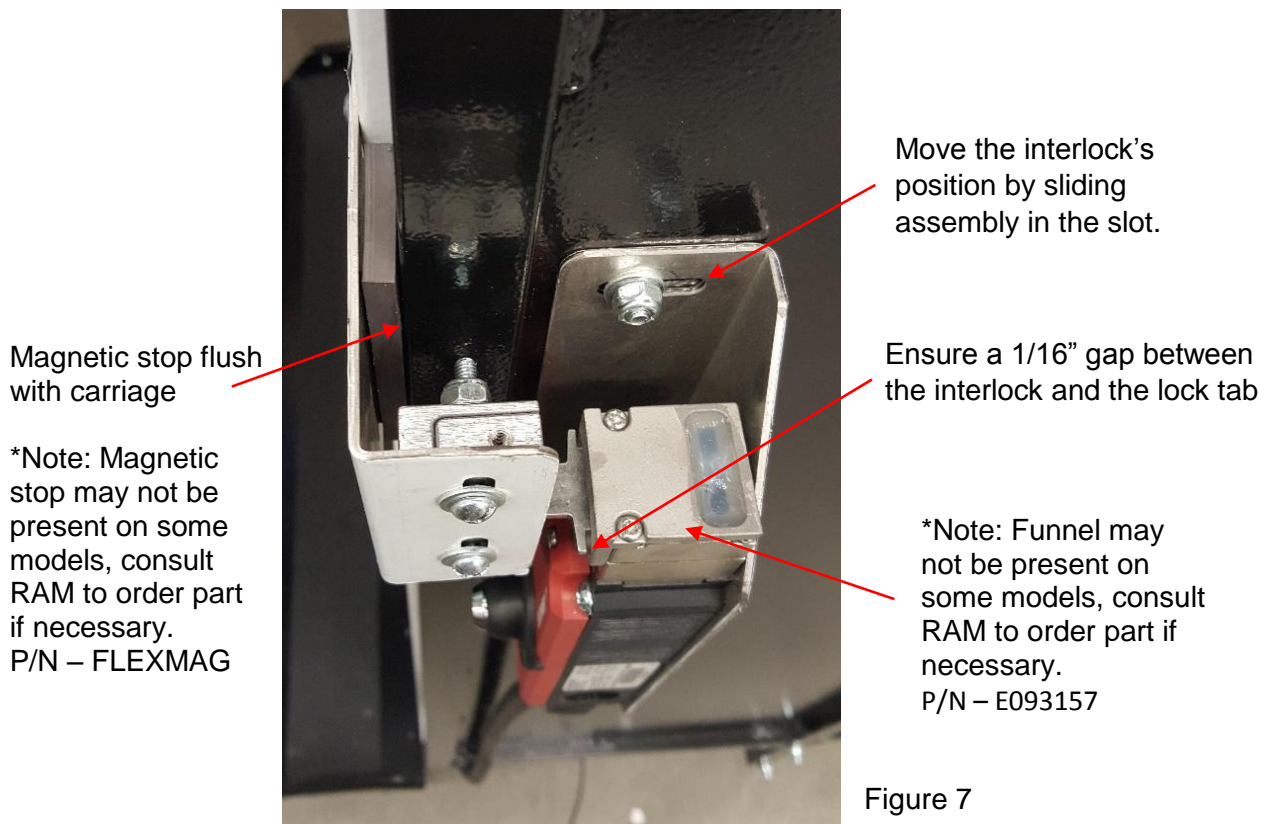

Figure 7
6. Ensure that the magnetic stop contacts the carriage and not the gate lock. Adjust the position of the interlock within the slot and tighten interlock position bolts – ref. figure 7